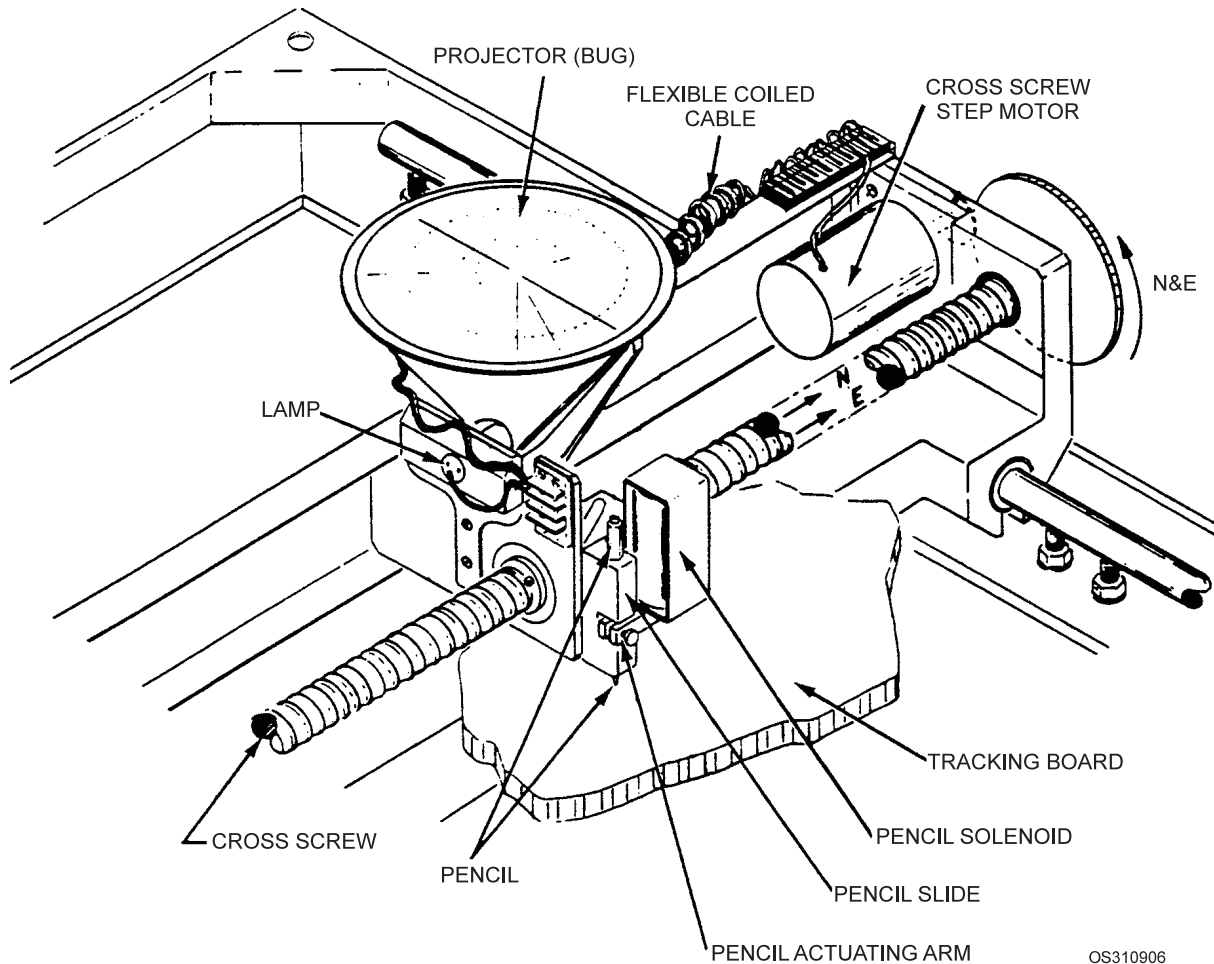

Figure 9-6.—Pencil and projector assemblies.
Trace timer (7): OFF/ON control for the pencil assembly solenoid actuating circuit, which is controlled by the clock. See figure 9-6.